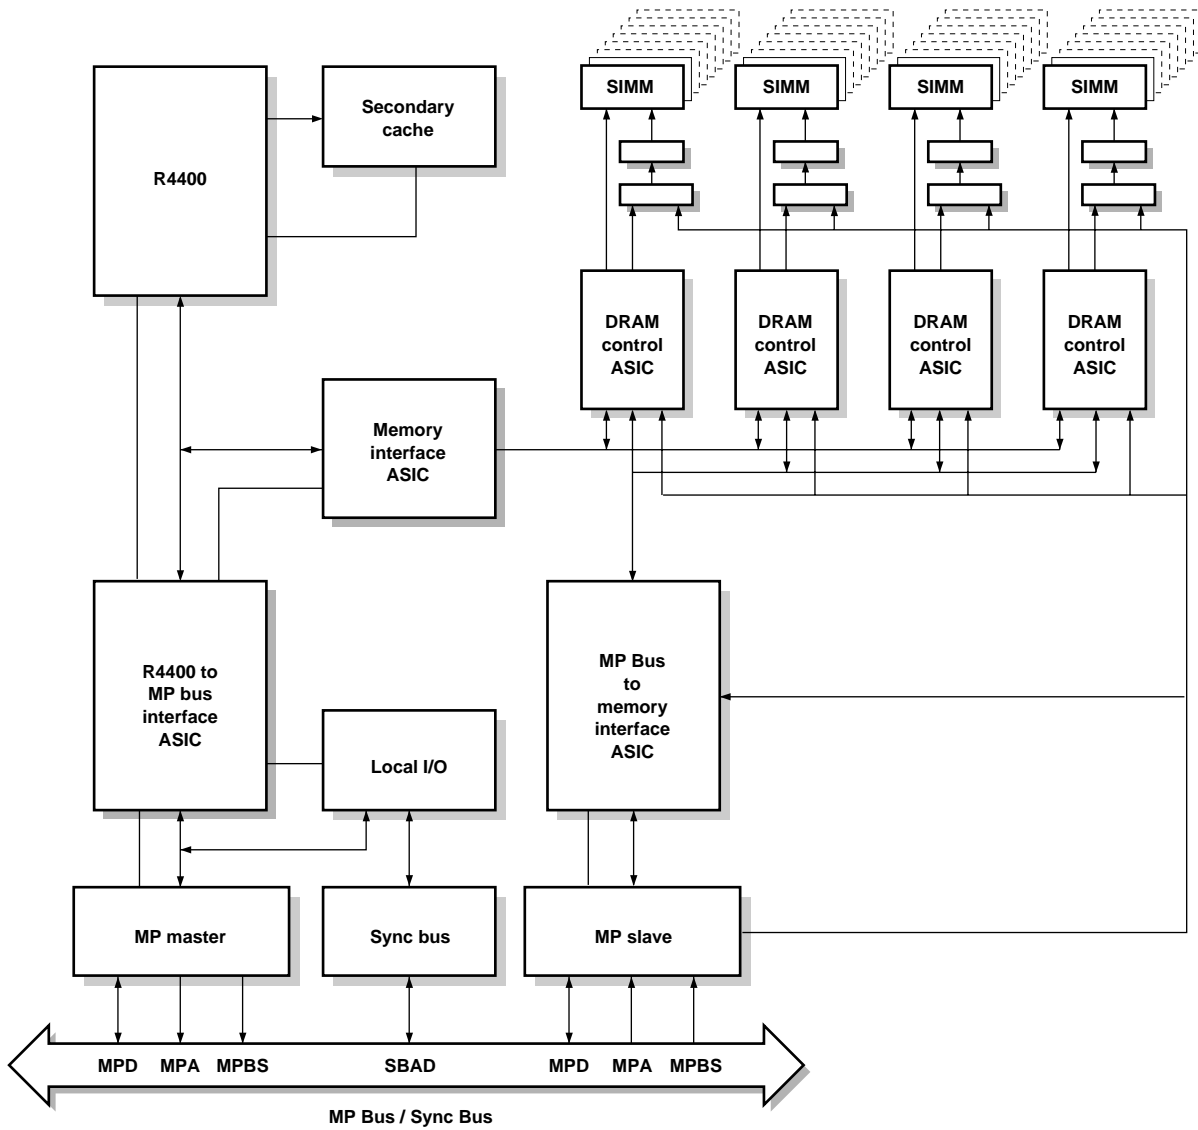

Figure 1-1 Block Diagram of IP17 Board
- Figure 1-1** Block Diagram of IP17 Board1-3
Figure 1-1 shows a block diagram of the IP17 board. The memory system consists of four dynamic RAM control ASICs (DCCs), 32 single in-line memory module (SIMM) sockets, and discrete DRAM address and control-line buffers. The DCCs convert the 256-bit wide memory array into two 64-bit buses.